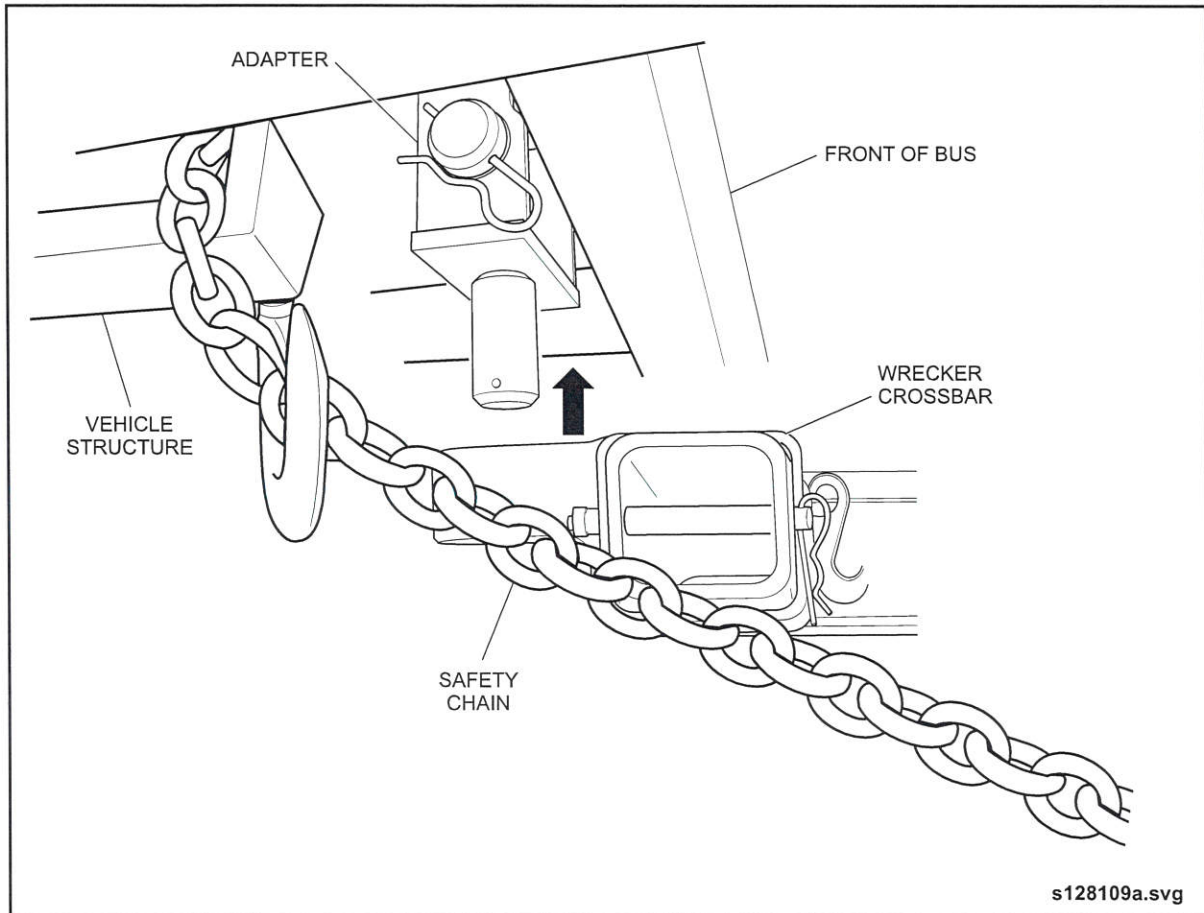

Fig. GI-24: Safety Chain
5. Attach two safety restraint chains from the towing vehicle to a fixed location on the towed vehicle. See "Fig. GI-24: Safety Chain" on page 44.